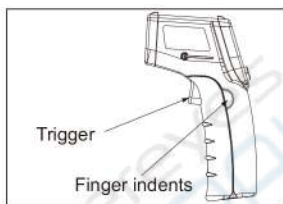

Figure 2
**1. Operating the unit : Figure 2**